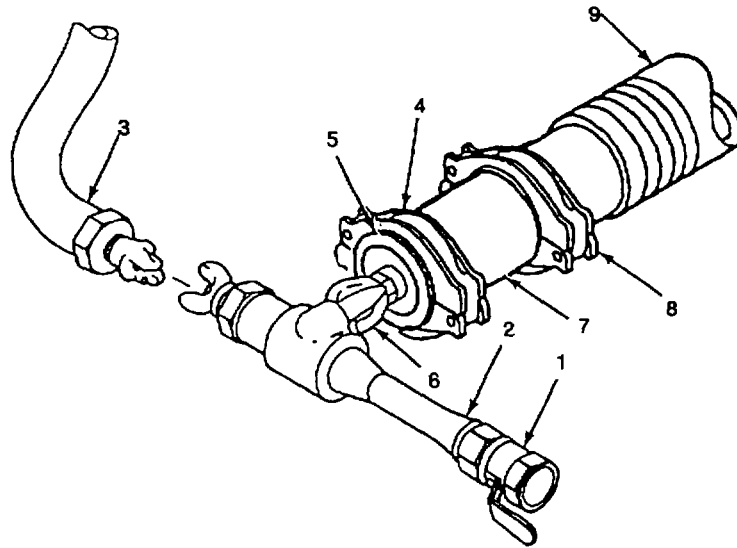

Figure 2-36. Ejector Assembly
- (20) Open ball valve (1, Figure 2-36) on ejector assembly.